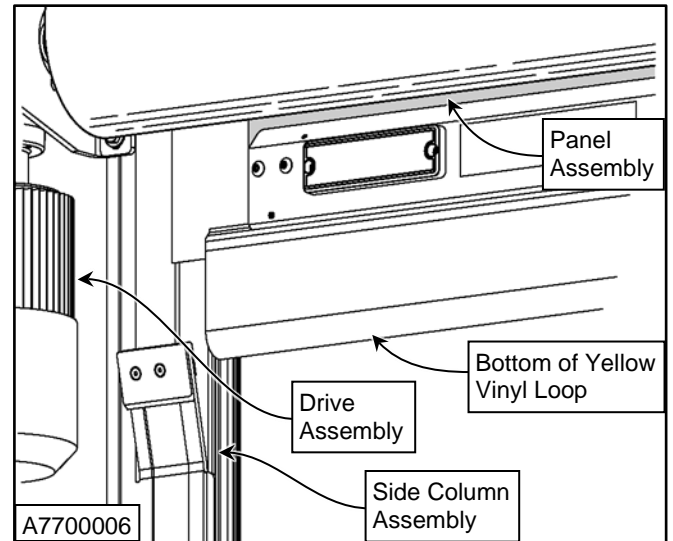

Figure 22
- With the door in the open position, check the location of the yellow vinyl loop on the bottom bar. It is shown in the correct position in Figure 22.